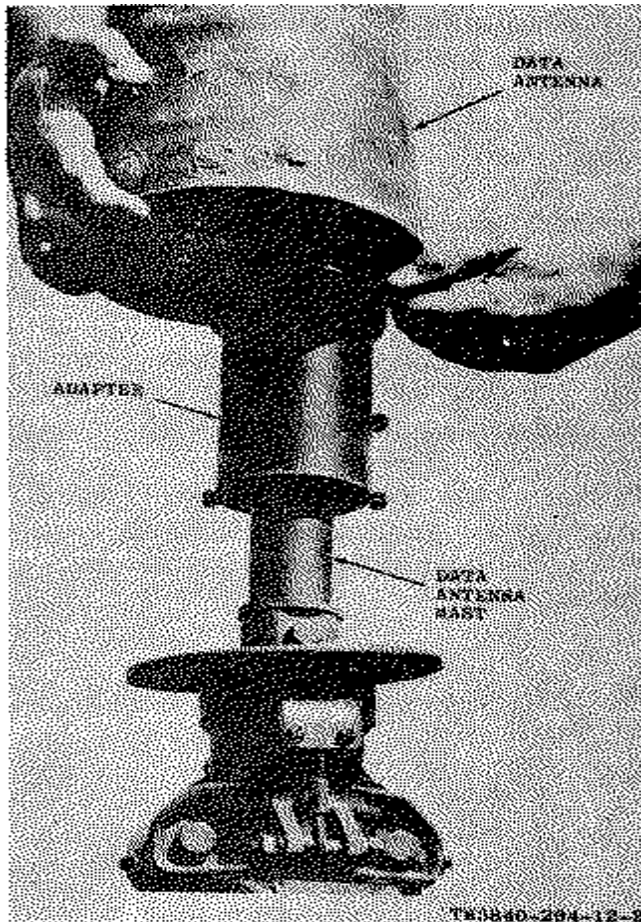

Figure 2-5. Installing data antenna.
- e. Lower the data antenna, fitting the tapered hole in its base over the tapered adapter, as shown in figure 2-5.